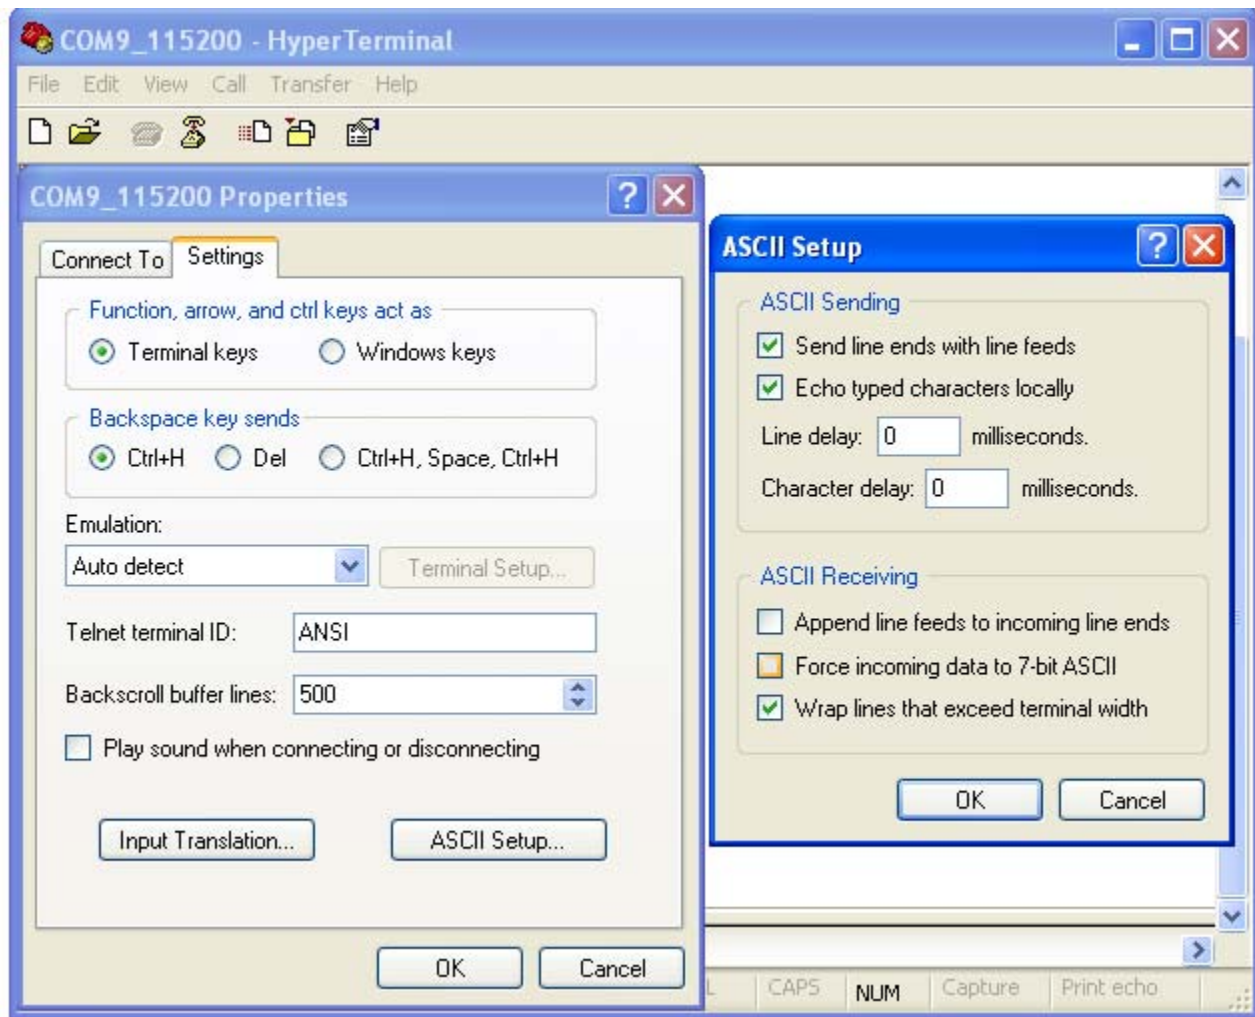

Figure C-8. Configure COM9_115200 - HyperTerminal
7. Configure the HyperTerminal as shown in Figure C-8. Click on the “OK” button to submit changes.